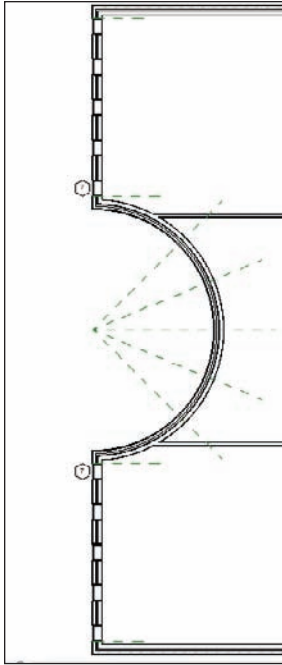

FIGURE 4.27 The finished west wall
5. Zoom out to check out the placement of the windows. Do not assume that everything went as planned. Your Level 1 floor plan should resemble Figure 4.27.